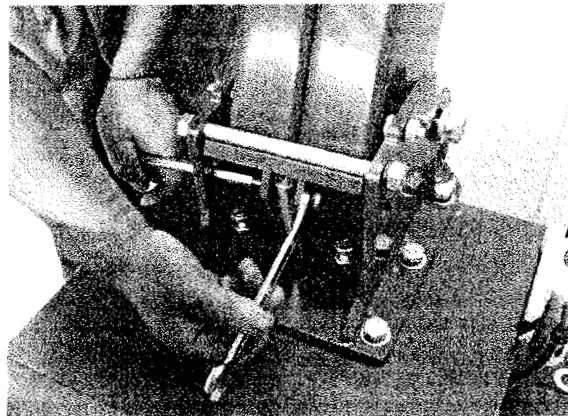

FIG 4-4
4.2.9 Fix the rod of the tile cylinder to the bottom of tile column using screw through the $\Phi 12$ hole (FIG4-4) and tighten it with nut. (FIG4-5)